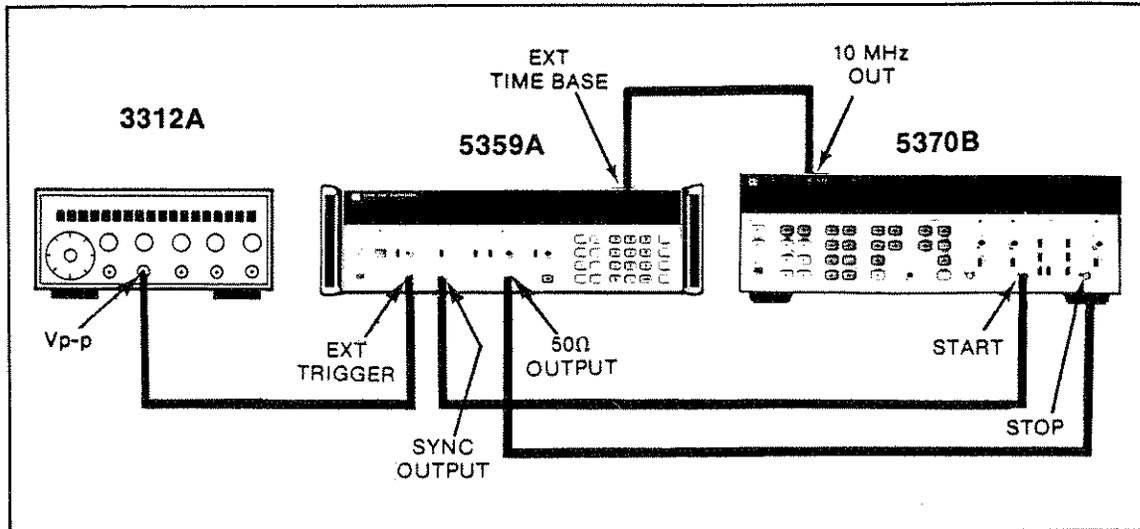

Figure 4-5. Setup For Jitter Performance Test
4. Connect the 5359A, 3312A, and 5370B as shown in *Figure 4-5*.